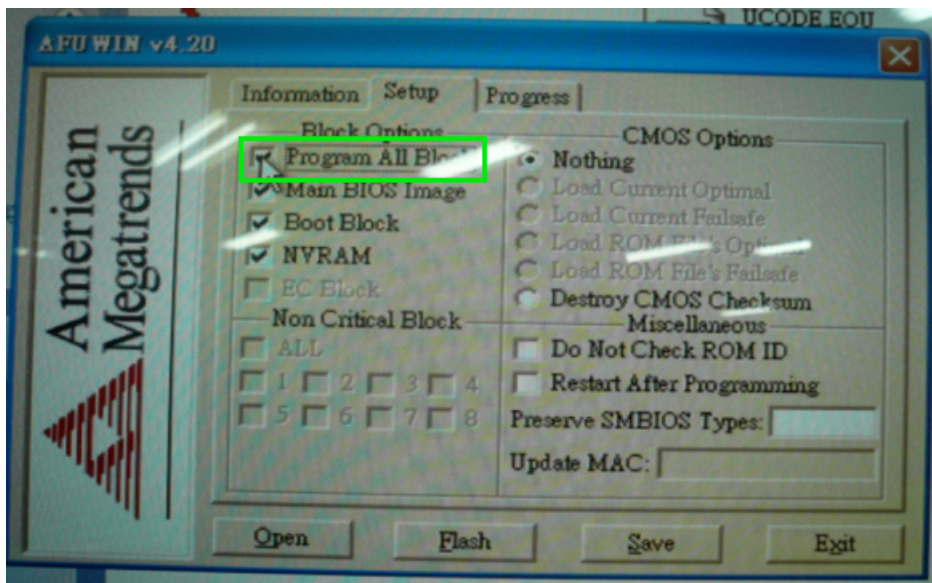

Figure 6-16: Check Program All Block
**Step 4:** Check "Program All Block" option (Figure 6-16).